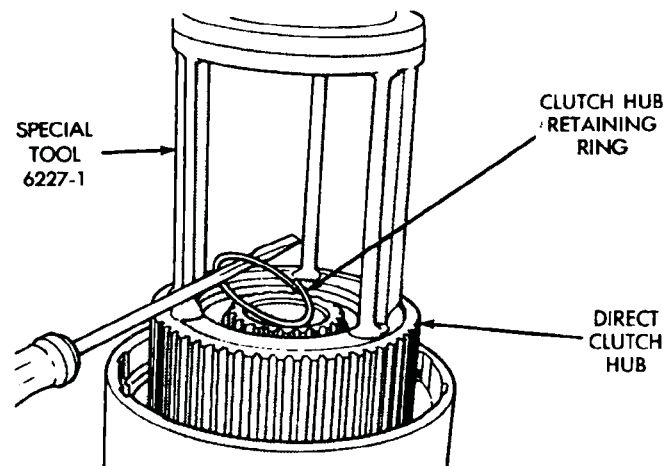
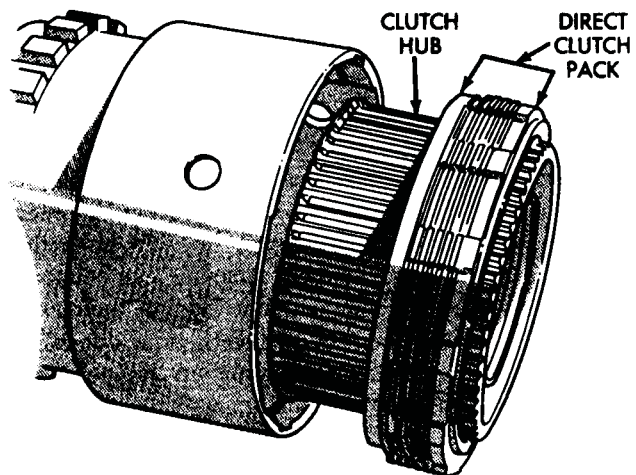

Fig. 23 Direct Clutch Hub Retaining Ring Removal
Fig. 24 Direct Clutch Pack Removal
(11) Remove direct clutch hub retaining ring (Fig. 23).
(12) Release press load on clutch spring **slowly and completely**. Remove press tools and geartrain.
(13) Remove direct clutch pack from hub (Fig. 24).